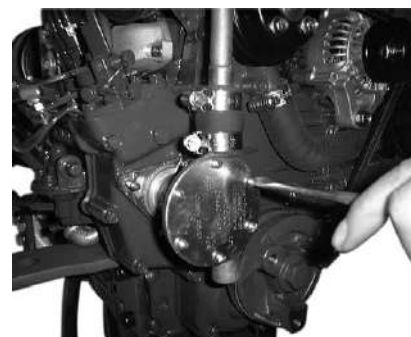

Fig. 2h
- (1) It is very important that the correct sea water flow is maintained to cool the closed circuit system of the engine. The key component in this system is the sea water pump impeller. This should be checked every year by removing the circular plate (see fig. 2h).
- (2) Withdraw the rubber impeller from its drive shaft as shown. See diagram 2i.
- (3) Check impeller for cracks in the rubber, excessive wear or lost vanes. Replace with a new impeller as necessary.